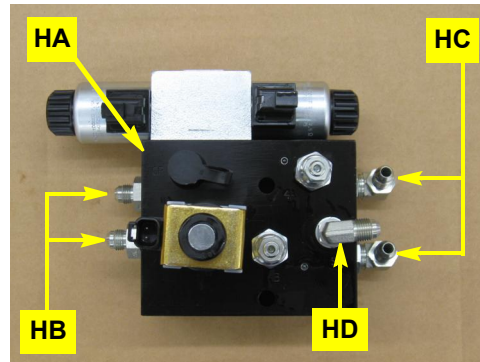

Figure 1: Prepared hydraulic block
Remove the plastic plugs from hydraulic steering block **HA** and install adapter fittings (Figure 1):
Prepare the steering wheel switch bracket SC as follows (Figure 1 - not to scale):
- Cut the slot  $\frac{3}{16}$ " from one edge of the bracket,  $\frac{1}{8}$ " from the other edge (Figure 1 inset)